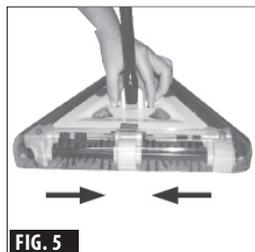

FIG. 5
- With the Triangle-Sweeper "Base" sitting on the floor or either flat surface such as a countertop, squeeze and hold the "Dirt Tray Lock Clips" with one hand and lift the sweeper up by its aluminum pole with the other hand, to release the "Dirt Tray" (see FIG. 5).